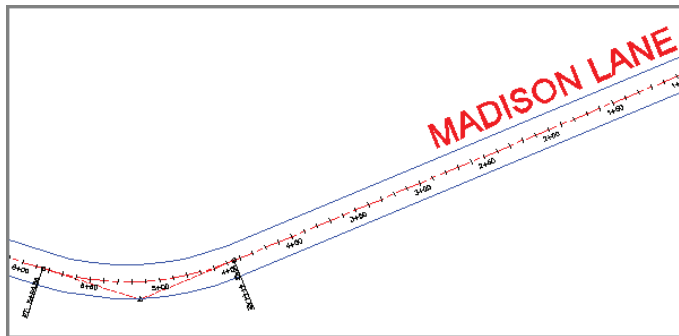

FIGURE 6.4 The Madison Lane alignment after the label set has been applied
10. Press Esc to clear the selection. Examine the Madison Lane alignment (see Figure 6.4), and note that the label set applied here is the same as the label set that was applied to Jordan Court.